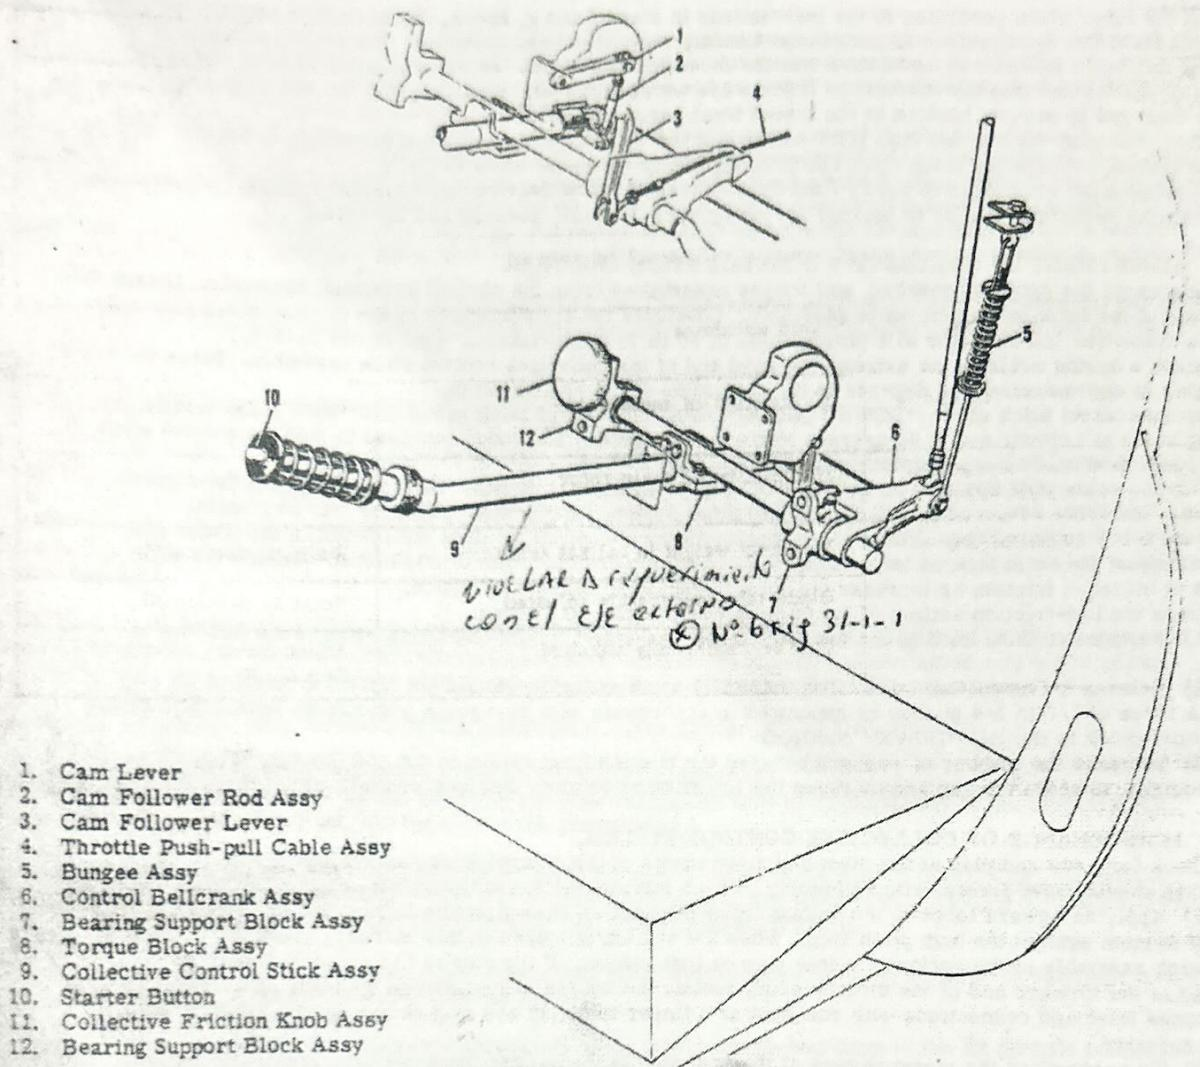

Figure 31-1-2. Collective Control Stick Installation
a. Disconnect the external pushrod and bungee assemblies from the control bellcrank assembly. Detach the forward end of the throttle control cable assembly. Lubricate the split bushings in the friction block assembly. Adjust the collective friction knob to a torque value of 50 to 70 pound-inches. (See figure 31-1-2.)
(1) Turn the friction knob to the low friction setting and raise the collective stick to the full "up" position.
(2) Release the collective stick. The collective stick assembly should not fall as a result of its own weight. A force of 1/2 to 3/4 pounds as measured in accordance with paragraph b should be required to return the collective stick to the full "DOWN" position.
(3) Increase the number of washers between the friction knob retaining nut and the support block assembly, if required, to close the gap and increase the low friction setting. Remove washers to decrease the friction.
31-10-1. COLLECTIVE CONTROL STICK ASSEMBLY. (See figures 31-1-2 and -3.)